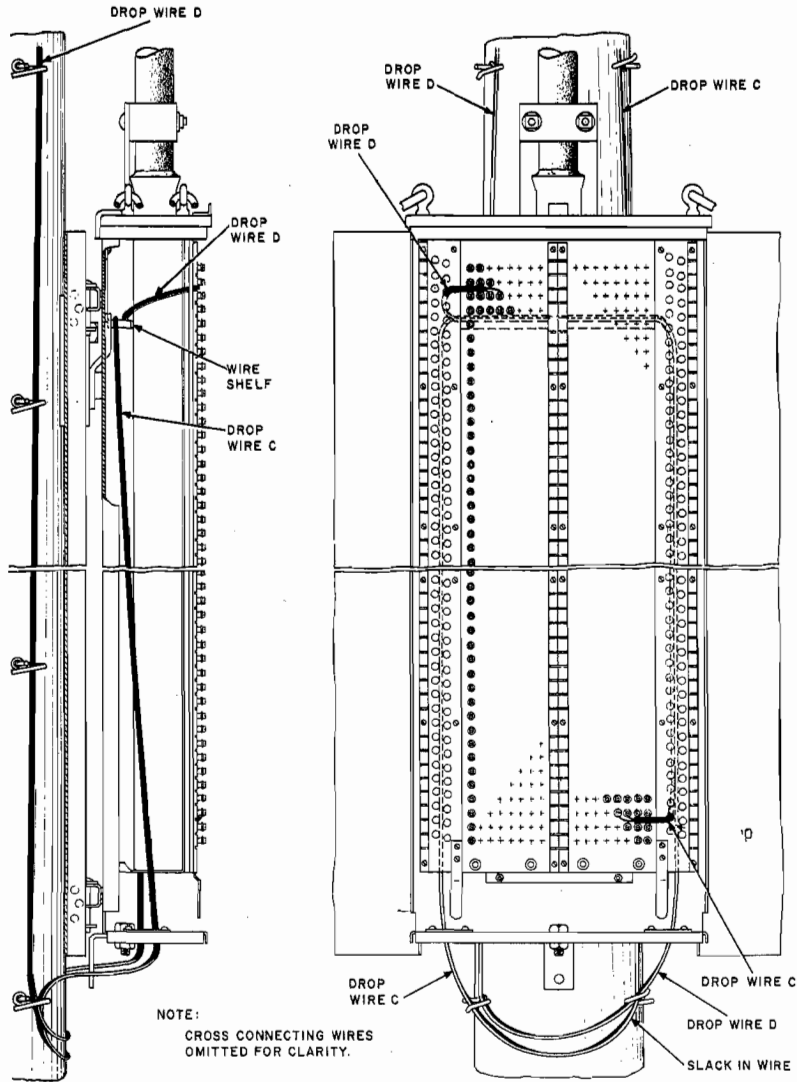

Fig. 20—Terminating Drop Wire—BD and BE Terminals
- 3.05** Terminate drop wire on cross-connecting type terminals by installing drop wire as shown in Fig. 20. Use G cross-connecting wire between the feeder pair binding posts and vacant drop wire binding posts if required.